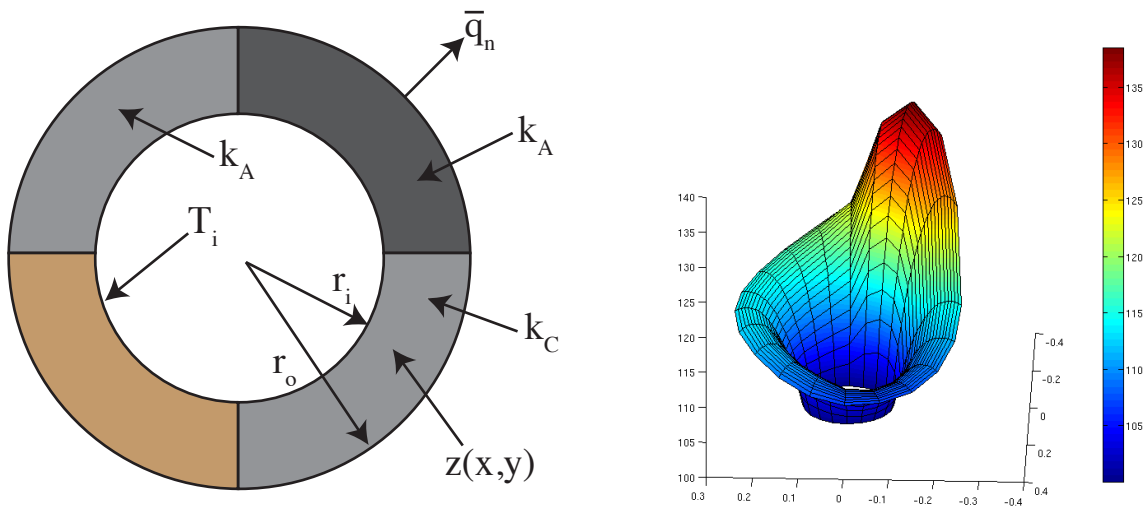

Figure 2: Annulus made from three materials and the expected solution
Consider the annulus in Figure 2 with the following conditions:
1. **Solve for the temperature distribution.** Use multiple values of NE_r and NE_θ . Provide a 2D plot of it. *Demonstrate that the solution converged by plotting the potential as the mesh is refined.* Your answer will be similar to the plot in Figure 2.
By doing $[x\ a]$, I concatenate the solved values into the z -data, so that I can rotate the graph like in Figure 2. Just doing x , you get a 2D plot. That includes the edges, you may want to add